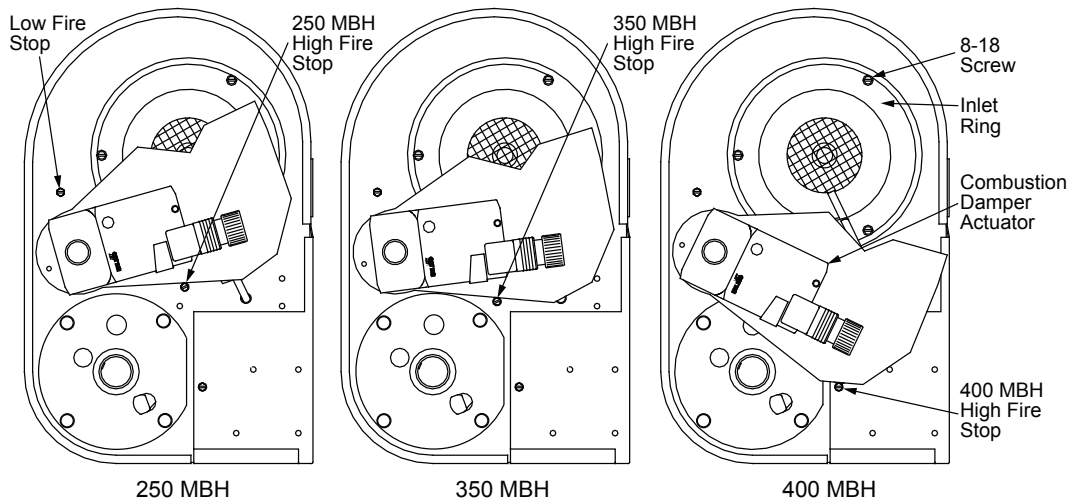

Figure 5 -
8. The damper should be flush with the low fire stop. The O₂ concentration of the flue exhaust at the low fire rate should be approximately 10% +/-2. To adjust the O₂ level at low fire (allow more air or reduce the air), vary the alignment between the damper and the inlet ring. Minimum air shutter adjustment can be done by adjusting the three 8-18 screws on the inlet ring (see Figure 5). To increase or decrease the O₂ percentage substantially loosen the air damper from the shaft and make necessary adjustment. Check combustion readings to verify burner performance.